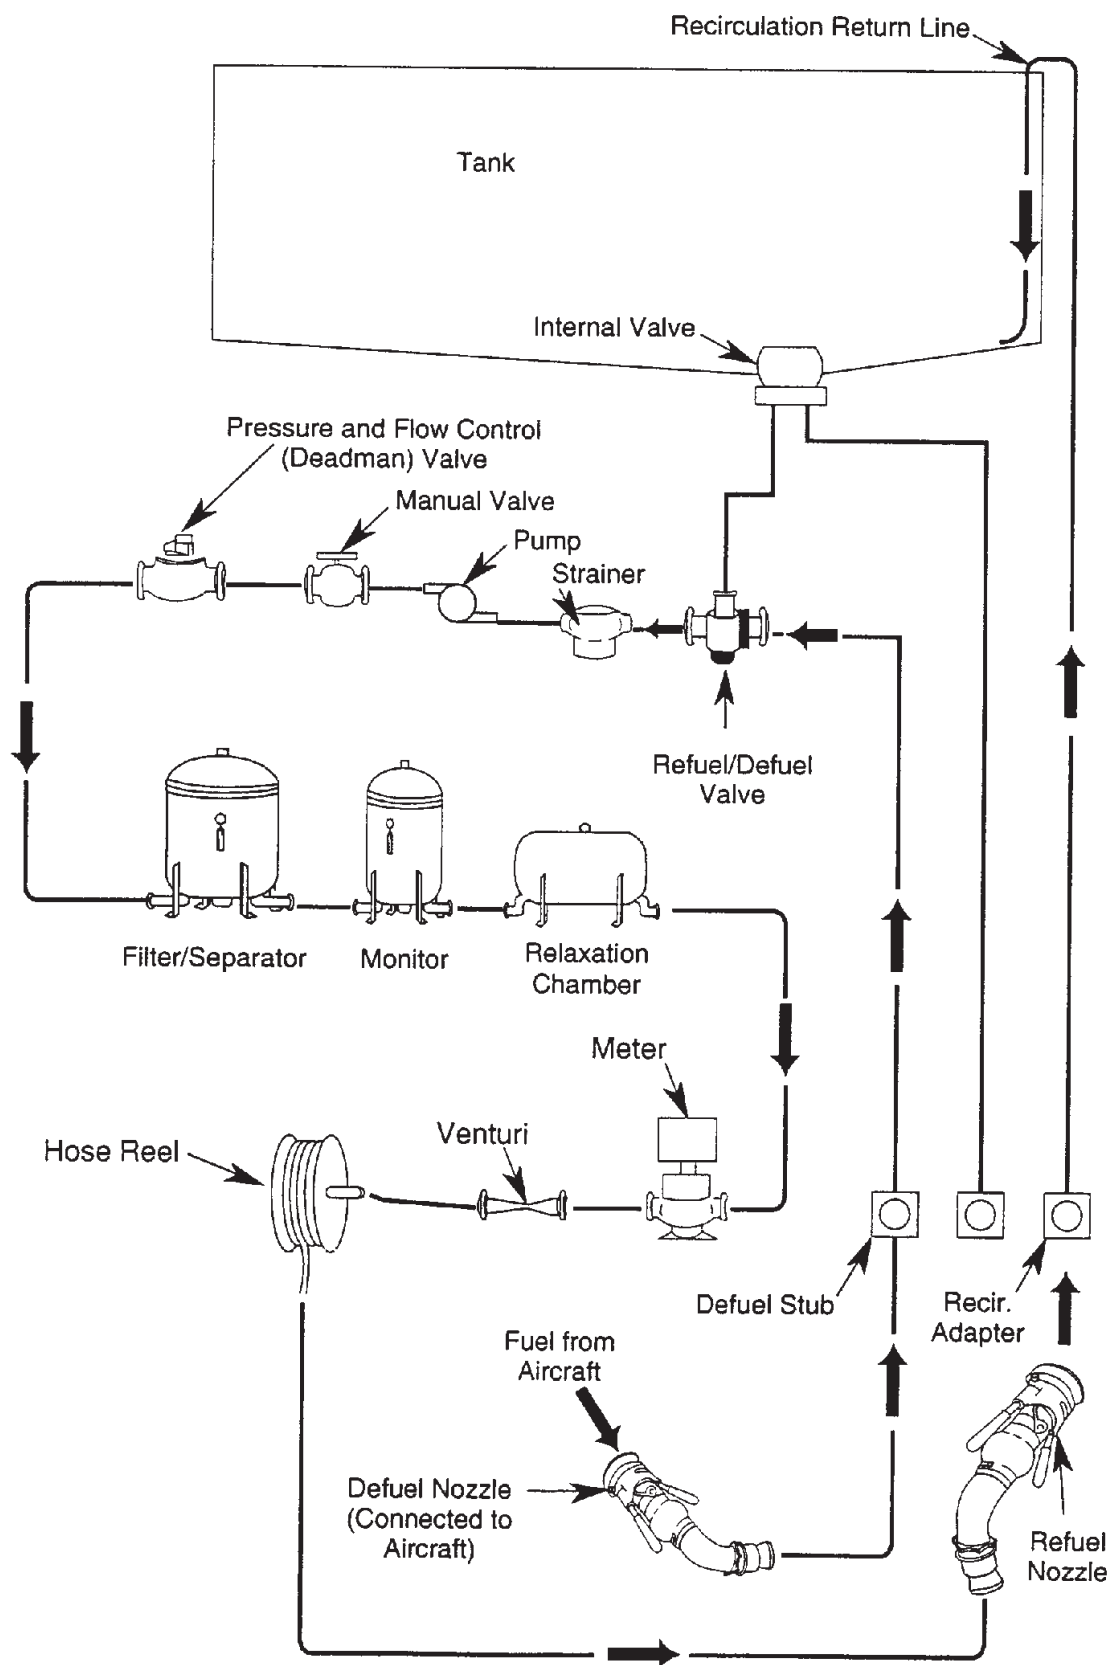

Figure 5-8.—Flow diagram for refueler/defueler in defuel mode.
- A dedicated defuel connection to the piping system that passes the fuel through the pump, filter/separator, monitor, and relaxation chamber before it enters the tank. A flow diagram of the general configuration of these system devices is shown in figure 5-8.